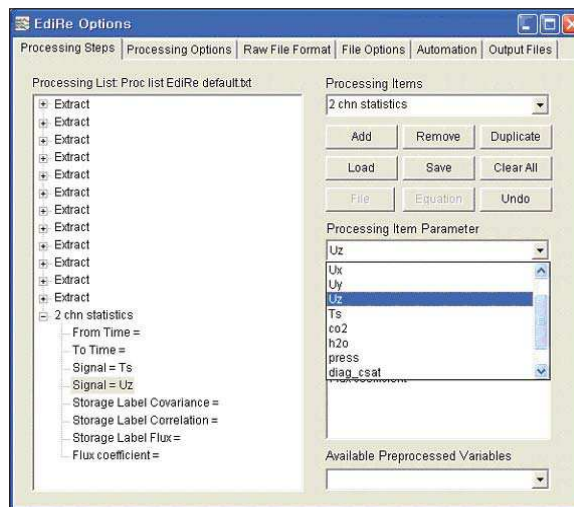

Figure 8: The "+" has been clicked to expand the processing options.
18. Using the "Processing Item Parameter" pull-down list, select the appropriate values for the "Signal" parameters (see Figure 8). The values selected for Signal's are the raw values that will be used for computation. The available values from the "Processing Item Parameter" list will have the same variable names that you used on the datalogger program to store the raw data.